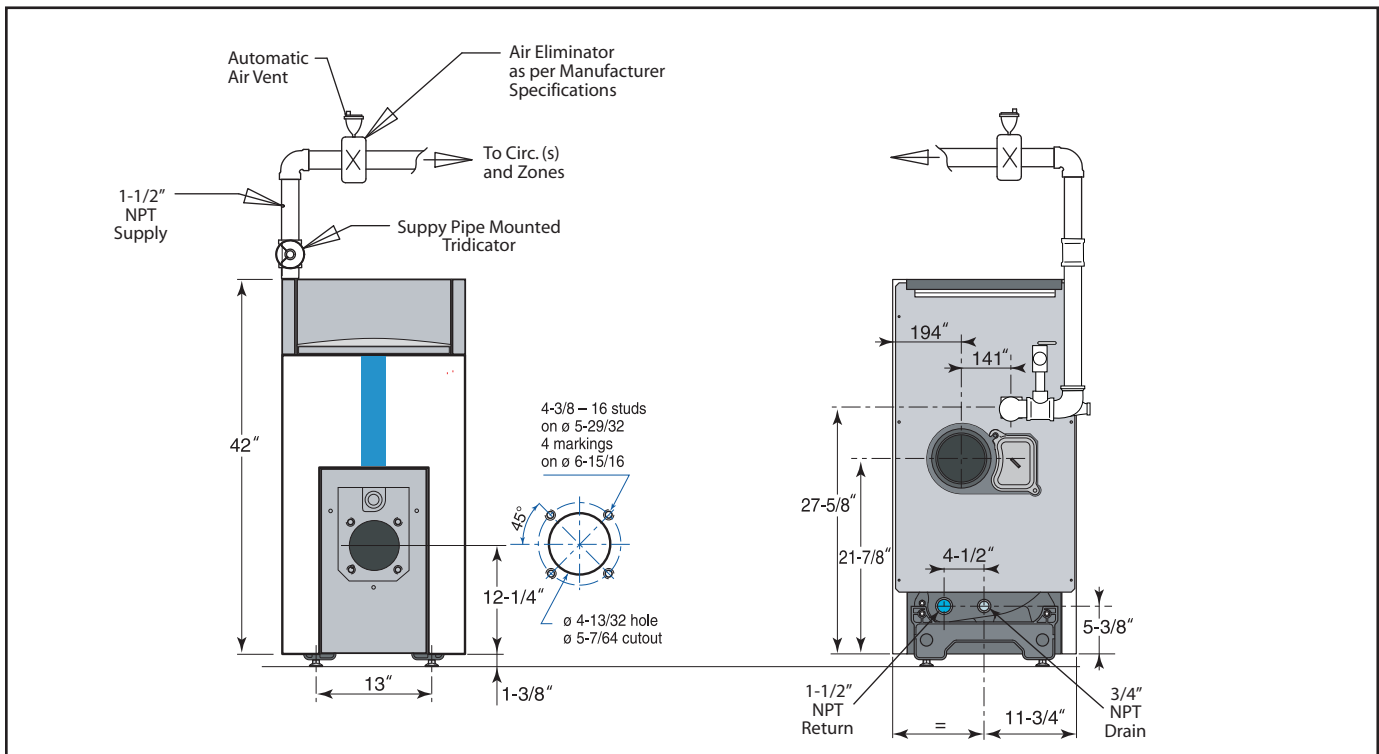

Figure 4. Air Eliminating System or Air Collecting System
- A. **DIAPHRAGM-TYPE COMPRESSION TANKS** are used to control system pressure in an **AIR ELIMINATING SYSTEM**: an automatic air vent is used to REMOVE air from the system water. (See figure 4)
the boiler, as in figure 4 and at radiation high points.
- D. **PUMP LOCATION** - Locating low-head pump(s) on return to boiler is only acceptable in residences of one or two stories. The pump location shown in figure 4 is required in large, multi-story building installations, especially when high-head pumps are used and is also recommended for all applications.